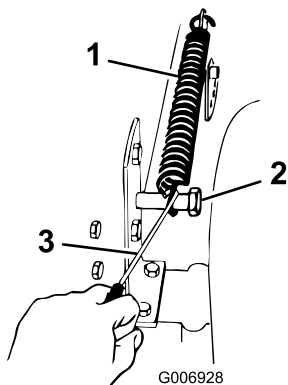

Figure 46
18. Hook the lift assist spring between the mower right side lift bracket and the retaining bolt (Figure 46).